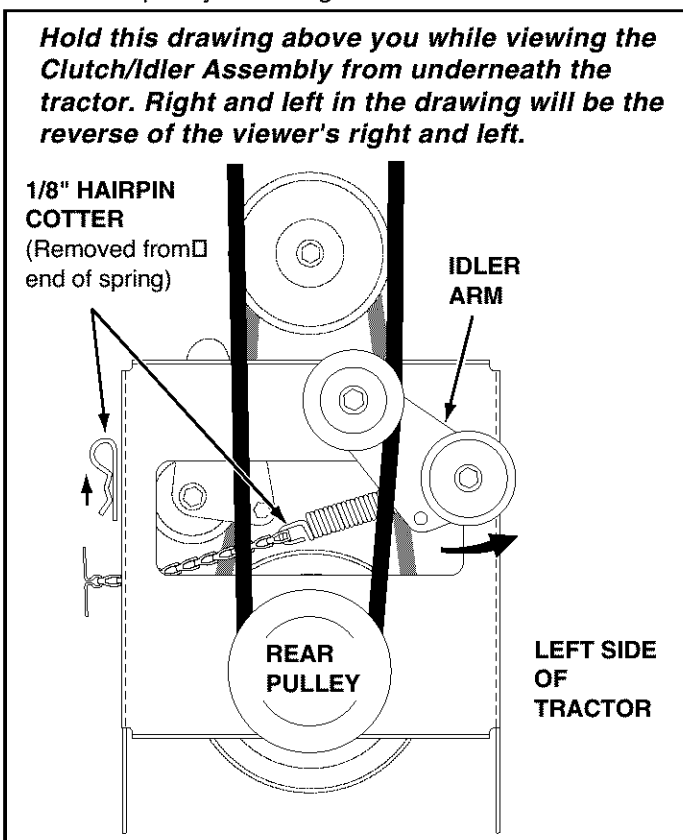

FIGURE 23
- Remove the 1/8" hairpin cotter that secures the end of the idler arm spring to the right side of the clutch idler assembly. Swing the idler arm to the left side. See figure 23.
- Place the auger belt around the rear pulley and between the two pulleys on the idler arm. The "V" side of the belt must be seated in the grooves of the "V" pulleys. See figure 23.